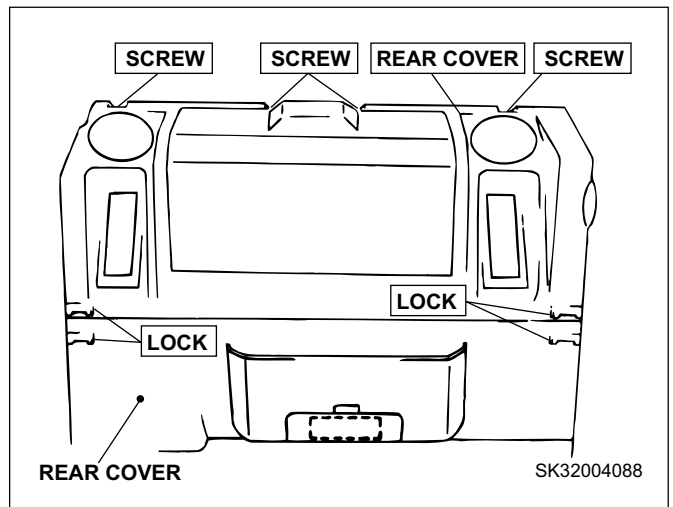
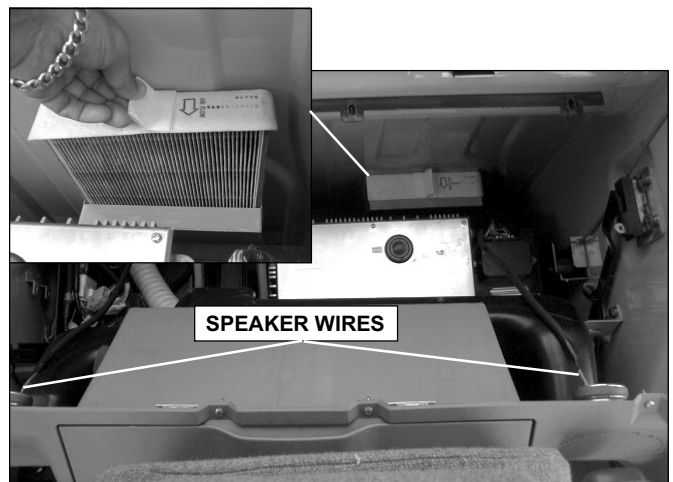

FIGURE 4.39A
FIGURE 4.39B
- b. Release the 4 top screws from the rear panel top cover (behind the operator's seat), see Figure 4.39A, and press the lower locks to release cover and remove it. Tilt the cover towards the seat to obtain access to the fresh filter. See Figure 4.39B.
- c. Remove the fresh air filter for inspection and cleaning, or replacement. See Figure 4.39B.
- c. Press the locks on the lower cover to release it and remove it to obtain access to the recirculate air filter. See Figure 4.39A.